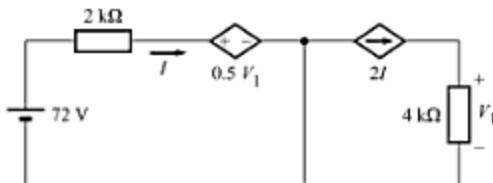

Fig. A-92
- A-56. Calculate voltage V_1 in the circuit of Fig. A-92. [Ans. 96 V]